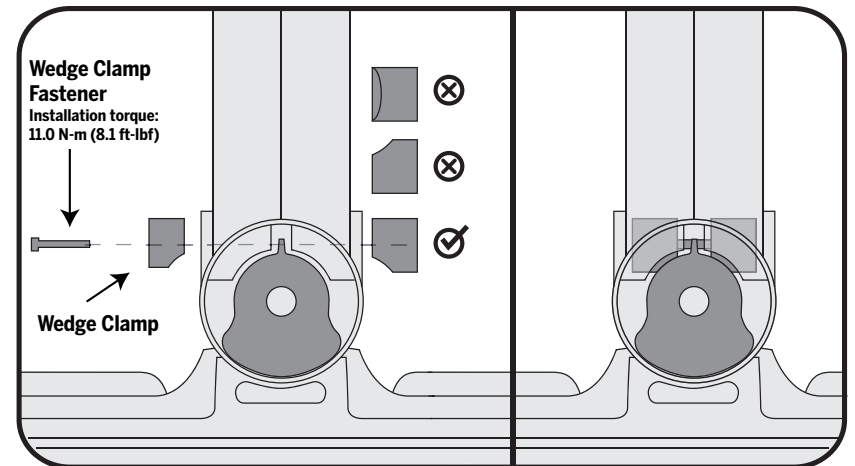

Figure 4. Ensure the Wedge Clamp is installed curved side down
7. If the Wedge Clamps are not installed, install each Wedge Clamp, curved side facing down, on either side of the LeanSteer Frame base and loosely thread in the fastener. See Figure 4.